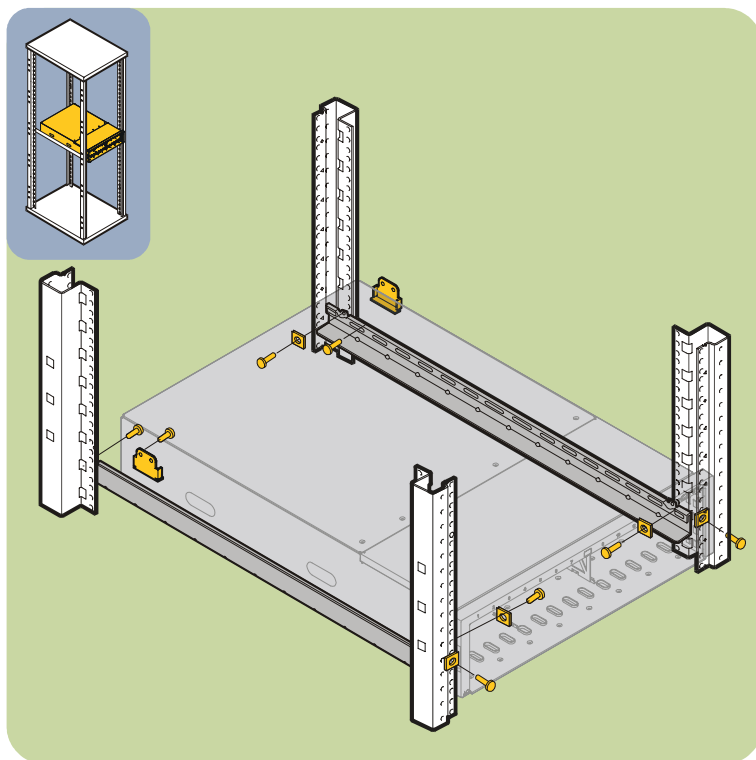

Fig. 11. HP Rack System/E Installation Overview
2. Study the installation overview (see Fig. 11).